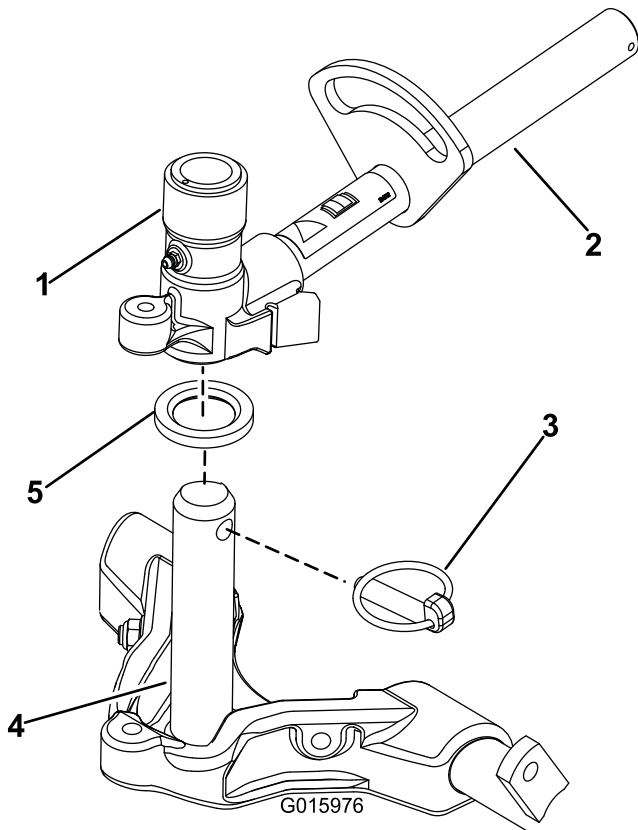

**Figure 17**
11. To lock (fix) the steering on the cutting units, secure the pivot yoke to the carrier frame with the snapper pin (Figure 17).